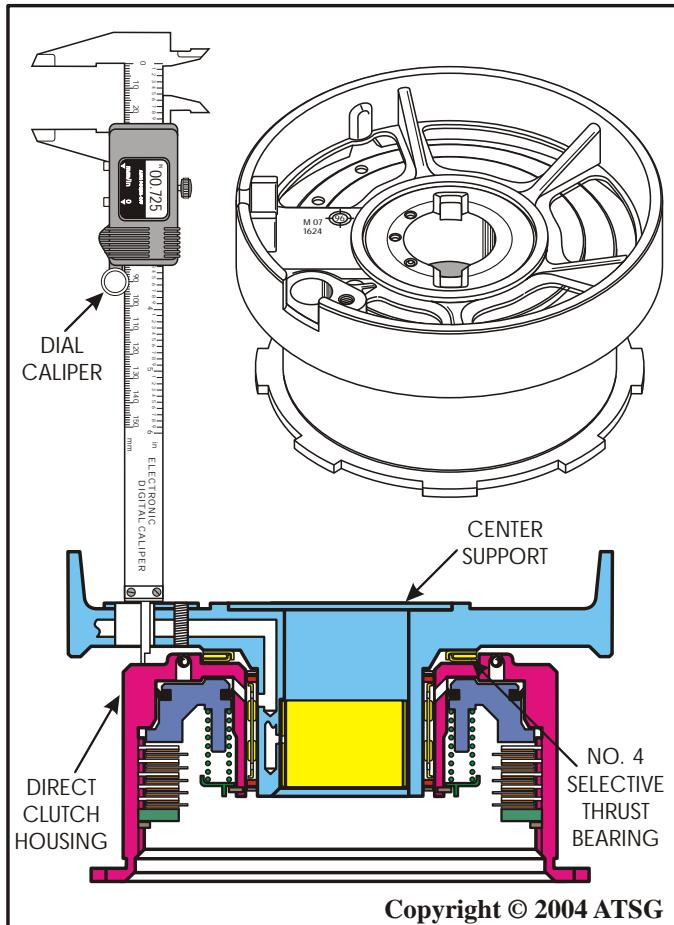

Figure 147
30. Assemble the selective bearing, direct clutch housing and center support, *on the bench*, as shown in Figure 147.
31. Measure with a dial caliper through the speed sensor hole down to the surface of the direct clutch housing, as shown in Figure 147, and record this as dimension "A".